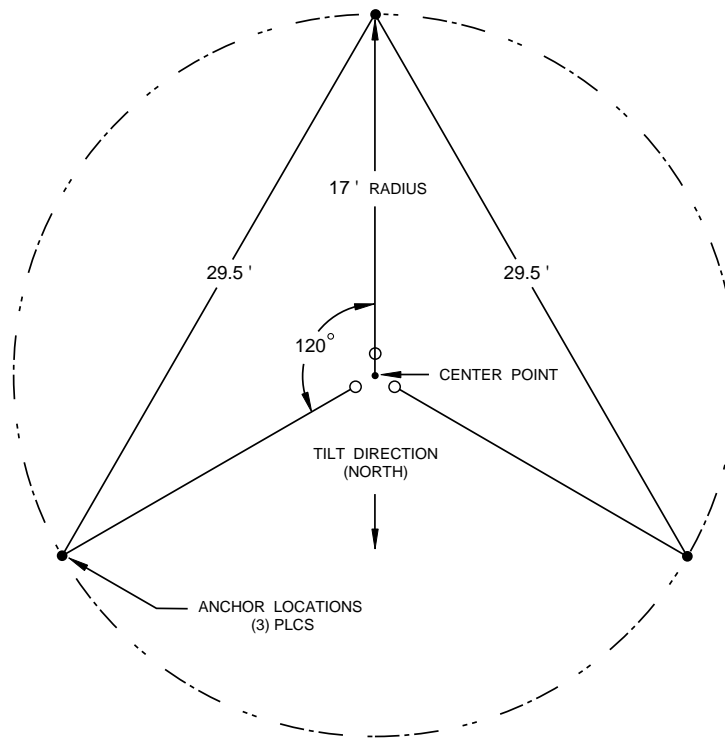

FIGURE 2.1-2. Top view of base and guy anchor layout
2. Drive a stake where the base of the tower will be located. Attach a line to the stake and scribe a circle with an 11.5 ft radius for the UT20 or a 17 ft radius for the UT30. Drive a stake on the scribed line opposite the direction the tower will hinge for the first guy anchor location (Figure 2.1-2).
When using a UT30 on level ground, lay out the remaining two anchor locations by measuring 29.5 ft from the first anchor to the scribed line on either side of the base stake (Figure 2.1-2). When using a UT20 on level ground, lay out the two remaining anchor locations 10 ft from the first anchor to the scribed line on either side of the base stake.